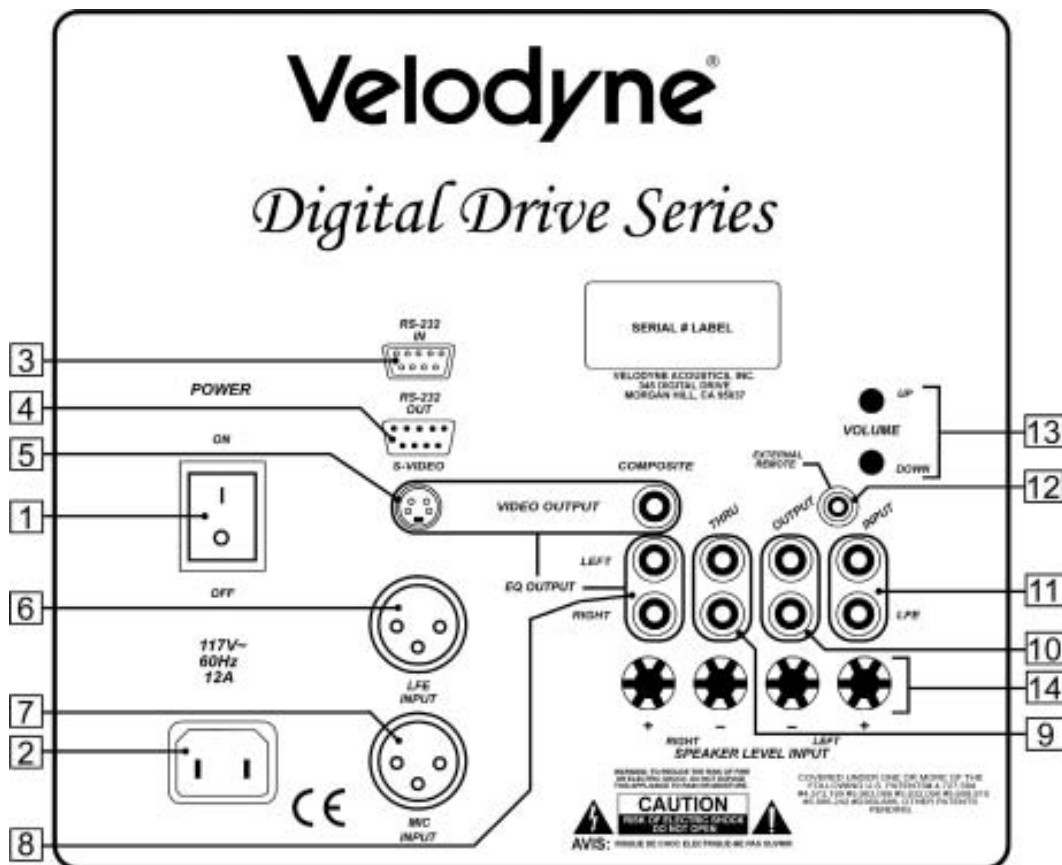

Figure 2: Digital Drive Rear Panel Connections
| Figure 2: Digital Drive Rear Panel Connections | 4 |
The Velodyne Digital Drive subwoofer is set up, configured, and adjusted by the controls, inputs, and connections located on the rear panel of the unit. Figure 2 shows the location of each of these important operational interfaces. Brief descriptions of each interface follow.
- a. LFE INPUT (RCA, the RED jack at location 11 on Figure 2) — This is the most common input cable connection. Make a connection between this input and the LFE output or the subwoofer output of your receiver or processor; *OR*
- b. LFE INPUT (XLR, location 6 on Figure 2) — Make a connection between this input and the balanced LFE outputs of your receiver or processor; *OR*
- c. INPUT, LEFT and RIGHT (location 11 on Figure 2) — Make a connection between these inputs and the stereo outputs of your receiver or processor; *OR*
- d. SPEAKER-LEVEL INPUT (location 14 on Figure 2) — Make a connection between these inputs and the left and right speaker connections on your receiver or processor. Make this connection (Figure 2) by either inserting speaker wire into the correct polar terminals, or by removing the banana plug jack caps and inserting banana plug wire into the jacks.
5. Insert the XLR microphone cable's 3-pin male plug into the MIC INPUT jack (location 7 on Figure 2) on the back panel of the subwoofer. For DD-15 and DD-18 units, a microphone jack is also located on the front of the unit for convenience.